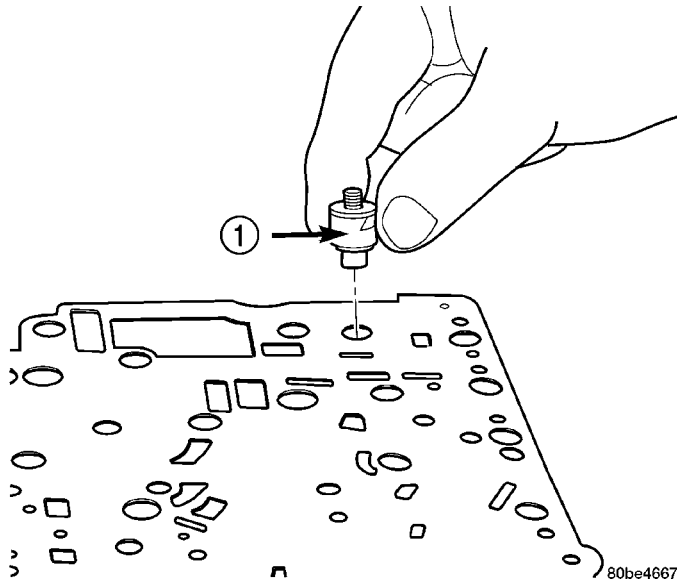

Fig. 349 Remove Overdrive Clutch (#5) Check Valve
(9) Remove the overdrive clutch (#5) check valve (Fig. 349)